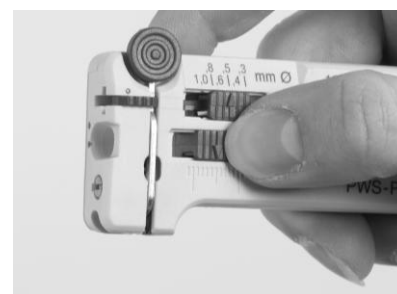

Figure 2
2. Then adjust the Strip Length Stop to the desired strip length. See Figure 2. If the stripped section is required to exceed 15mm (.59 in.) the wire can bypass the Strip Length Stop.